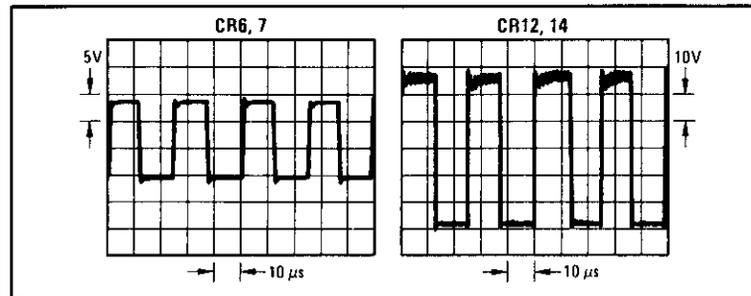

Figure 8-904. Transformer (T3) Secondary Waveforms
10. Compare the waveforms at the outputs of the rectifiers on the secondary of transformer T3 to those shown in Figure 8-904 below.